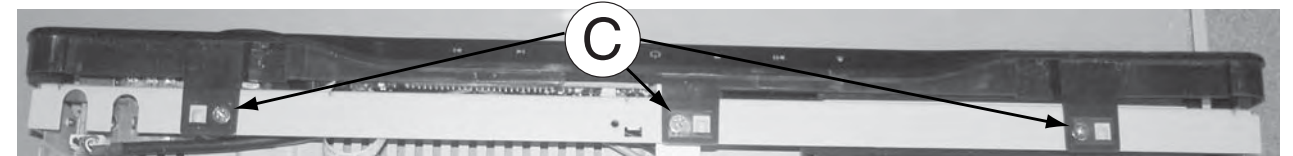

Figure 7
- 1 screw "D" each on the left & right side as shown in figure 7.